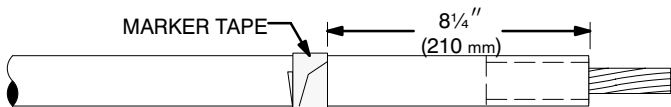

FIGURE 3
4. Place a marker tape 8 1/4" (210 mm) from end of cable insulation. (*FIGURE 3*)